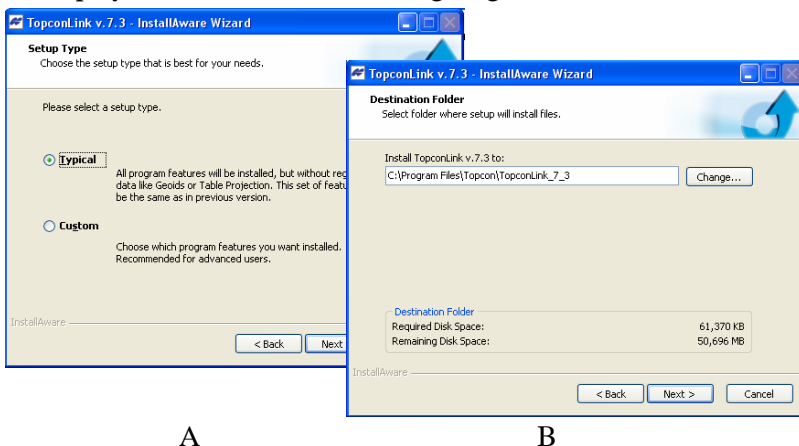

Figure 1-2. Typical Setup Type
- display the next installation dialog (Figure 1-2)
3. Either keep the default installation folder or click **Browse** to select a different folder in which to install the Topcon Tools. Click **Next** to continue (Figure 1-2 on page 1-4, picture B)).